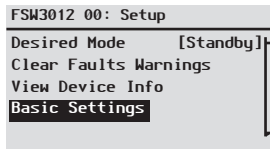

Figure 19 Selecting Basic Settings From the Device Setup Screen
1. On the **FSW3012 00: Setup** screen (Figure 19), press the down arrow button until **Basic Settings** is highlighted.